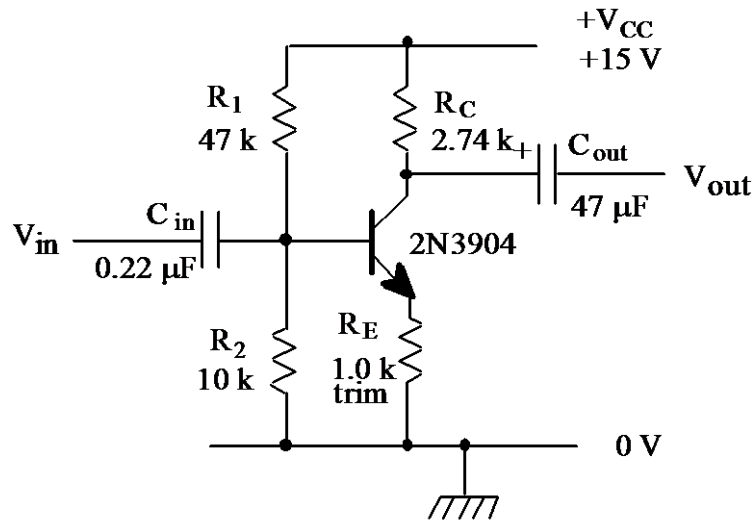

Figure 7.3 Biased Common Emitter Amplifier
Although we usually want to amplify a small ac signal, it is nonetheless very important to set up the proper “quiescent point”, the dc voltages present when the signal is zero. The first step is to fix the dc voltage of the base with a voltage divider (R_1 and R_2 in Figure 7.3). The emitter voltage will then be 0.6 V less than the base voltage. With the emitter voltage known, the current flowing from the emitter is determined by the emitter resistor: $I_E = V_E/R_E$. For an emitter follower, the collector is usually tied to the positive supply voltage V_{CC} . The only difference between biasing the emitter follower and biasing the common emitter circuit is that the common emitter circuit always has a collector resistor. The collector resistor does not change the base or emitter voltage, but the drop across the collector resistor does determine the collector voltage: $V_C = V_{CC} - I_C R_C$.
There are three subtleties to keep in mind when biasing common-emitter or emitter-follower circuits. First of all, the base bias voltage must be fixed by a low enough impedance (parallel combination of R_1 and R_2) so that changes in the base quiescent current do not substantially alter the base voltage. This is essential because the base current depends on h_{FE} and so it is not a well determined quantity. If the base voltage is determined by a divider (as in Figure 7.3), the divider impedance will be low enough when:
1. (3 points) Calculate the quiescent voltages (the DC voltages with no signal present) V_B , V_E , and V_C , and the currents I_E and I_C for the common emitter circuit in Figure 7.3. You may assume that h_{FE} is so large that the base current is negligible. How much power is dissipated in the transistor itself? Is the power safely below P_{max} ? See 2N3904 data sheet posted on our web site. What is the maximum h_{FE} value at 10 mA collector current? (You may use this value for calculations below.)